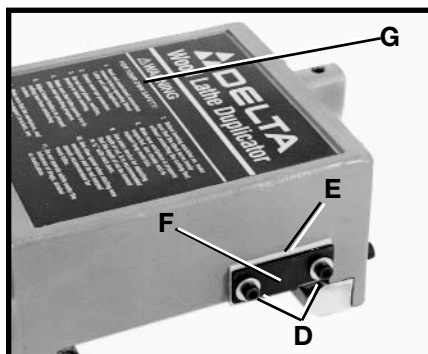

Fig. 14
2. Loosen two screws (D) Fig. 14 and raise wiper (E) and retainer plate (F) to their highest position. Tighten two screws (D). Repeat this procedure on the other side of carriage (G).